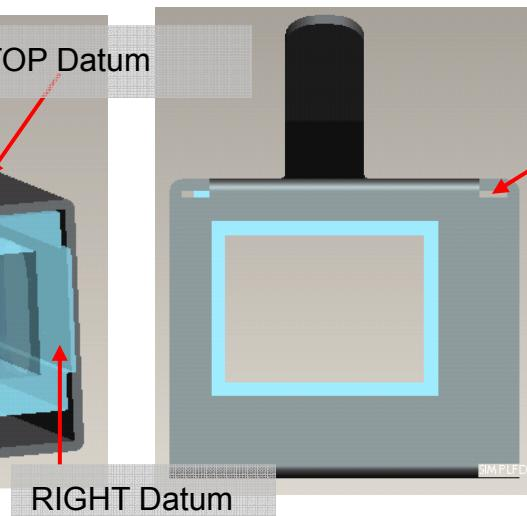

Fig.5-2
5.2 Referring to Figure 5-2, there must be visible clearance between “BKT\_LP” and ”LP opening” after assembly .